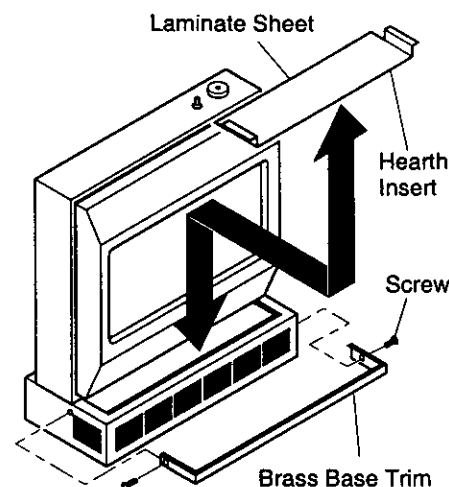

Figure 19 - Placing Hearth Insert on Heater Base and Attaching Brass Base Trim
6. Place hearth insert in hearth base as shown in Figure 19.
8. Slide base trim on heater base. Attach brass trim to base with two brass screws included as shown in Figure 19.